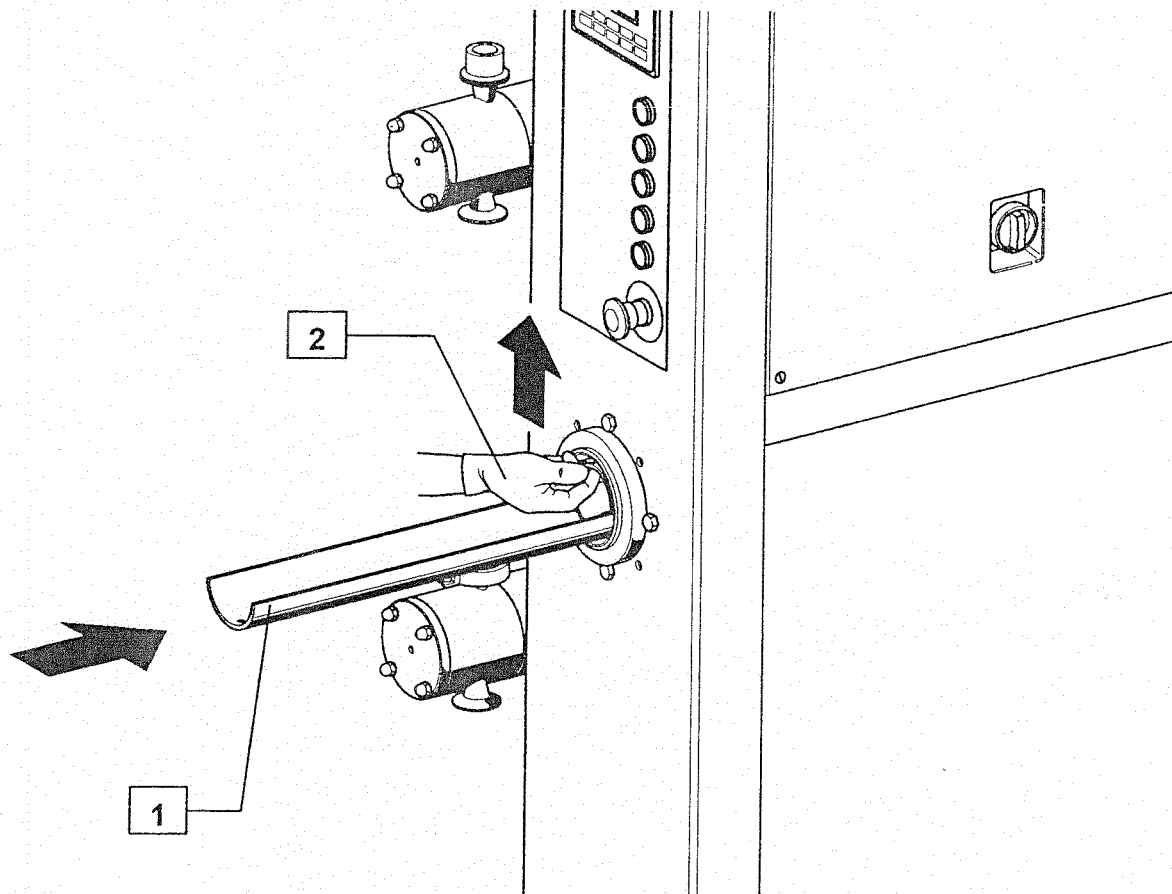

Fig. 7-11 – Dasher disassembly
3) Insert the cleat (Fig. 7-11 pos. 1) in the dasher keeping this latter slightly lifted (Fig. 7-11 pos. 2).